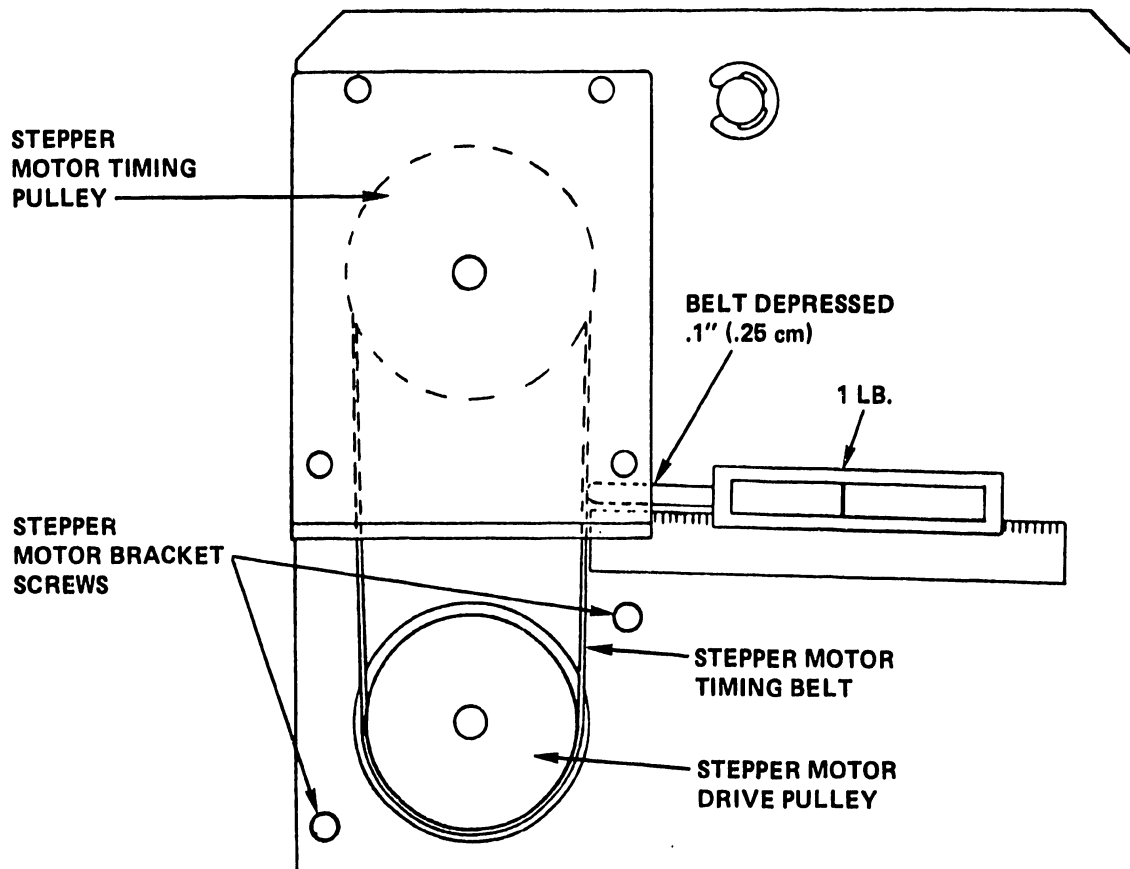

Figure 5-42. Stepper Motor Timing Belt Tension Check
2. Deflect the middle of the stepper motor timing belt .1" (.25 cm). The scale should read 1 lb. See Figure 5-42.